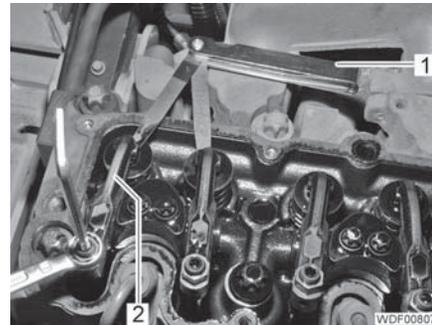

Fig. 5 Valves 1 and 2
- Push the feeler gauge (Fig. 5,1) under the tipping lever (Fig. 5,2).